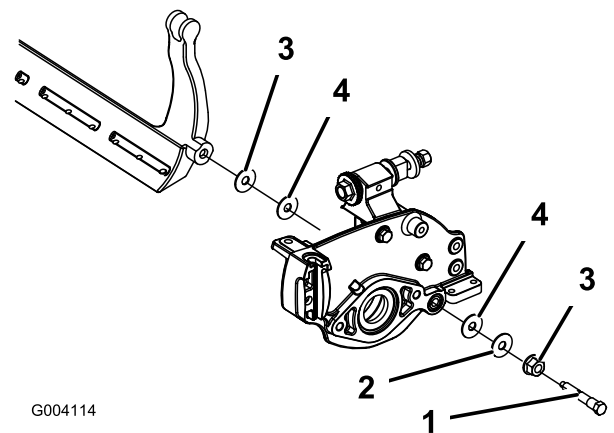

Figure 62
4. Remove each bedbar bolt allowing bedbar to be pulled downward and removed from machine. Account for 2 nylon and 2 stamped steel washers on each end of bedbar (Figure 62).